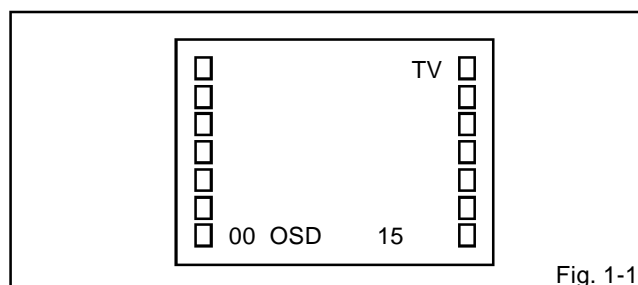

Fig. 1-1
Press the VOL. DOWN button on the set and the Channel button (**9**) on the remote control for more than 1 second to appear the adjustment mode on the screen as shown in **Fig. 1-1**.
4. Activate the adjustment mode display of **Fig. 1-1** and press the channel button (**02**) on the remote control to select "RF.AGC".
3. Activate the adjustment mode display of **Fig. 1-1** and press the channel button (**01**) on the remote control to select "CUT OFF".
4. Activate the adjustment mode display of **Fig. 1-1** and press the channel button (**10**) on the remote control to select "R.BIAS".
3. Activate the adjustment mode display of **Fig. 1-1** and press the channel button (**22**) on the remote control to select "TINT".
6. Activate the adjustment mode display of **Fig. 1-1** and press the channel button (**19**) on the remote control to select "COL.CENT".